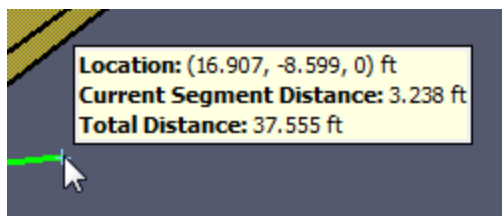

Figure 99. Information displayed by the measure tool
2. Either click several points to measure the total distance along a path or click-drag to measure a single distance between two points. As the cursor is moved, the current cursor location, total path length, and length of the most recent segment are displayed as shown in Figure 99.